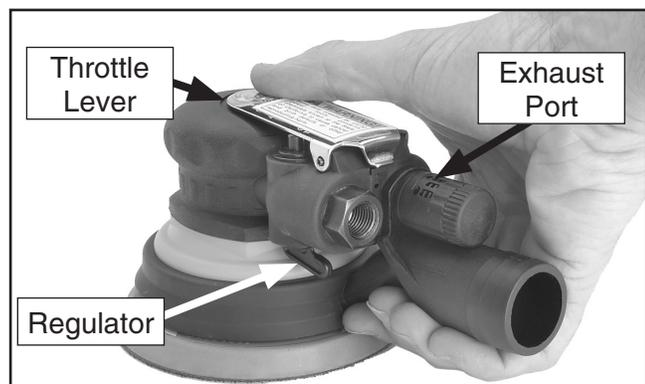

Figure 4. Sander controls.
- Hold the sander and press the throttle lever (**Figure 4**) to turn the sander **ON**.
- Turn the regulator (**Figure 4**) to adjust the sanding pad speed to a fixed rate, and rotate the directional exhaust port.